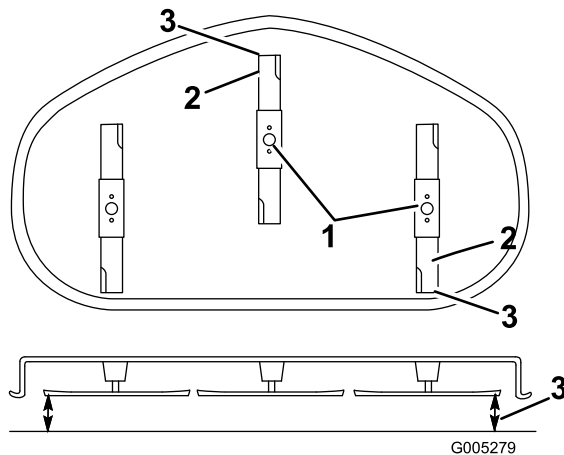

Figure 45
- Set the height-of-cut at position **D** [3 inch (76 mm)] and carefully rotate the blades so they are facing front to rear (Figure 45).
- Measure from the tip of the front blade to the flat surface and the tip of the rear blade to the flat surface (Figure 45). If the front blade tip is not 1/16-5/16 inch (1.6-7.9 mm) lower than the rear blade tip, adjust the front locknut.
is 1/16-5/16 inch (1.6-7.9 mm) lower than the rear blade tip (Figure 45).